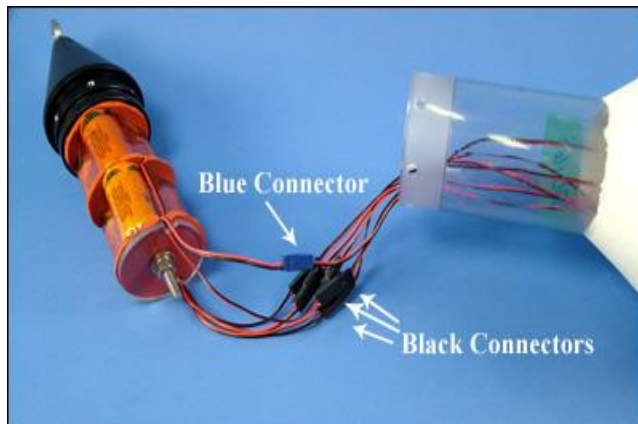

Fig. 2 Batteries ready to be disconnected from TMT-462
2. Gently tug on the wires and connectors and carefully separate (but do not disconnect) the leads and connectors for each battery **(Fig. 2)**. Note: there are six batteries with connectors. Five batteries with black connectors power the GPS unit, and one battery with a blue connector powers the VHF transmitter. Disconnect the blue connector for the VHF battery. **(Fig. 2)** Then disconnect the 5 black connectors for each of the other batteries.